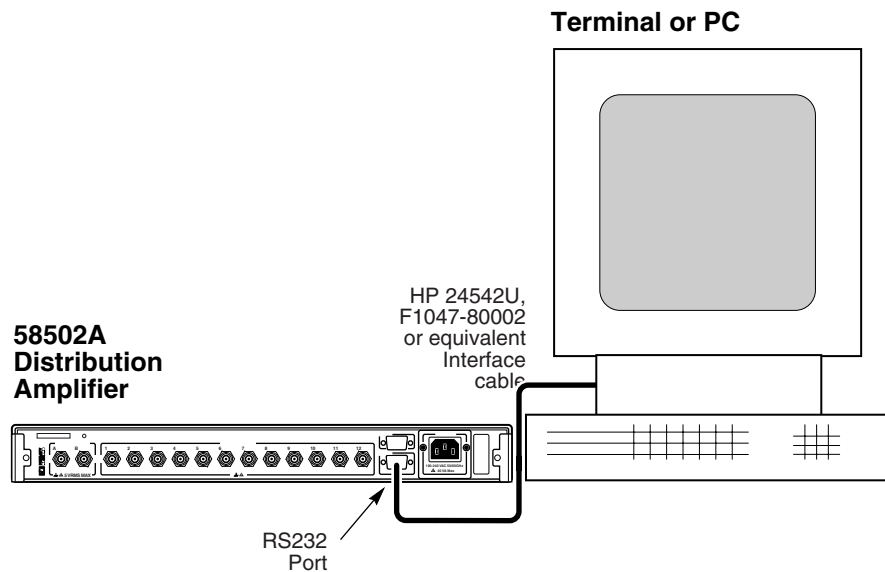

Figure 2-5. RS-232 Verification Setup
- 2 If you are using the Distribution Amplifier with a Terminal or personal computer (PC), connect it to the rear-panel **RS232** port using an HP 24542U, F1047-80002 or equivalent interface cable (or equivalent RS-232 null-modem cable with DE-9S female connectors at each end) as shown in Figure 2-5.